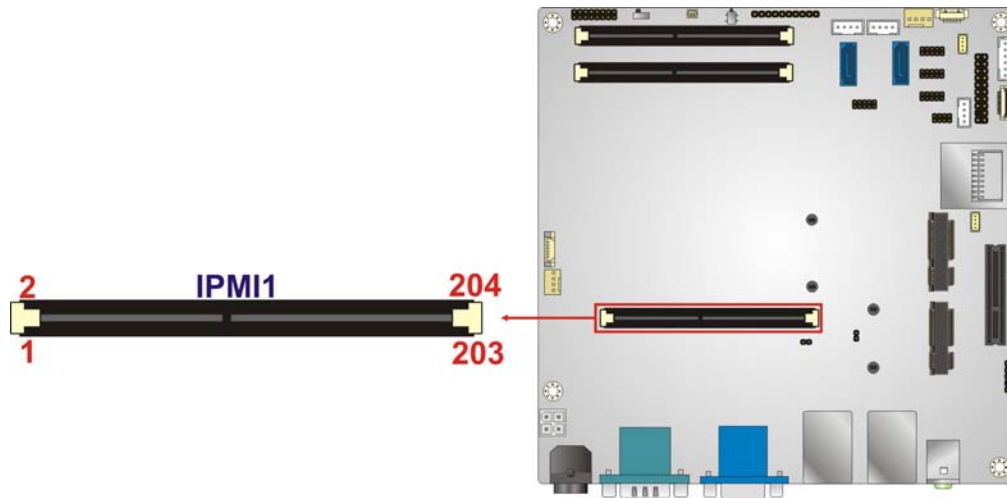

Figure 3-11: IPMI Slot Location
- CN Location: See **Figure 3-11**